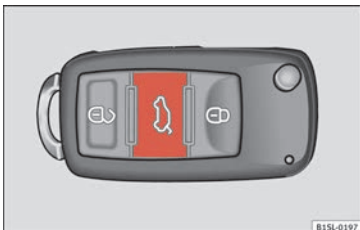

Fig. 106 On the vehicle key: button to unlock and open the boot hatch.
- Press the button on the vehicle key » **Fig. 106** for about one second to unlock the rear lid.